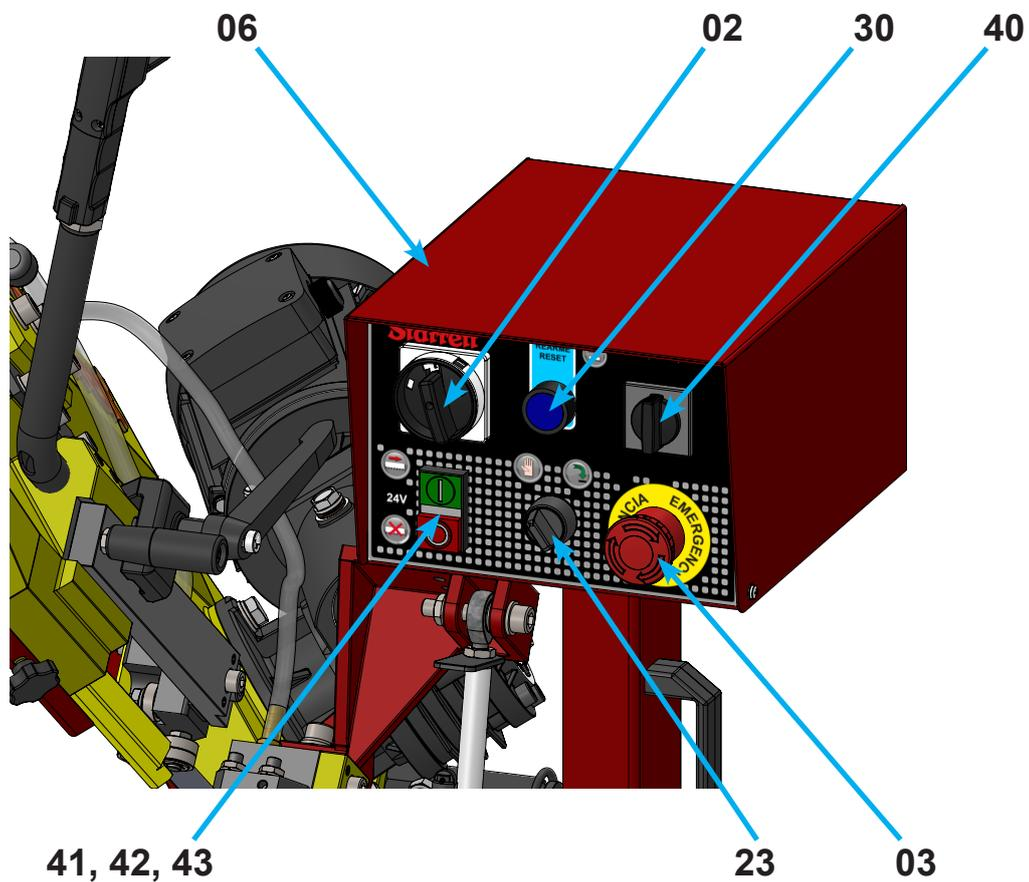

FIGURE 12.1 - CONTROL PANEL
In case of an incident where it is necessary to press the **EMERGENCY** Button (03) on the Control Panel (06) (figure 12.1), the operator must follow the steps below.
1. PRESS the **EMERGENCY** Button (03) located on the Control Panel (06).
2. TURN OFF the machine using the Main Switch (02) by setting it to the **OFF** position (figure 12.1).
7. CHECK if the material to be cut is properly secured, ensure the Band Saw Blade (10) is intact, in the correct position, away from the material, and secure, and verify that there are no other imminent hazards that need to be removed.
8. TURN ON the Main Switch (02) by positioning it to **ON** once the issue is resolved and the danger is eliminated, if present.
9. CHECK if the White Pilot Light (43) on the Control Panel (06) is illuminated. If the White Pilot Light (43) remains off, request maintenance personnel assistance to investigate the issue. There could be an electrical problem preventing the machine from starting.
10. CHECK if the Blue Light (64) on the RESET Button (30) is on.
11. Press the RESET Button (30). The Blue Light (64) should turn off (figure 12.1):
- If the Blue Light (64) turns off, **PRESS** the Start Button – GREEN (41) to resume the initial work.